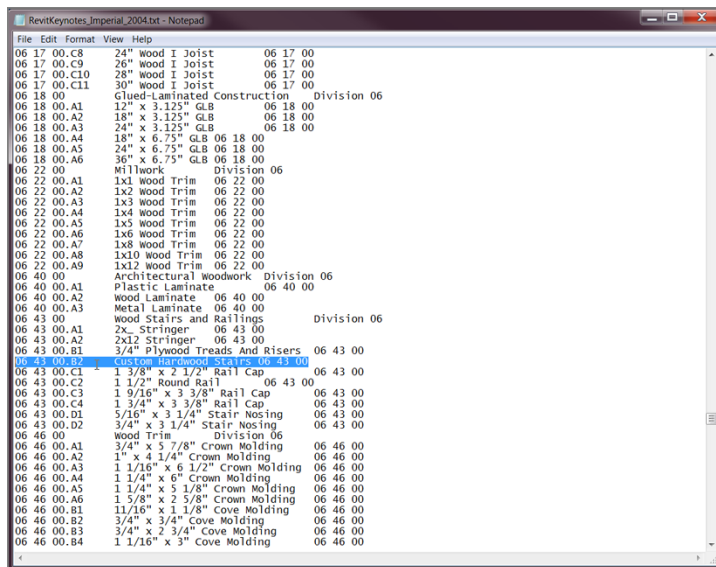

FIGURE 11.92: Adding the row 06 43 00.B2 Custom Hardwood Stairs 06 43 00
4. Click at the end of the note, press Enter to start a new line, and add the row `06 43 00.B2 Custom Hardwood Stairs 06 43 00 (06430.B2 Custom Hardwood Stairs 06430)` (see Figure 11.92).